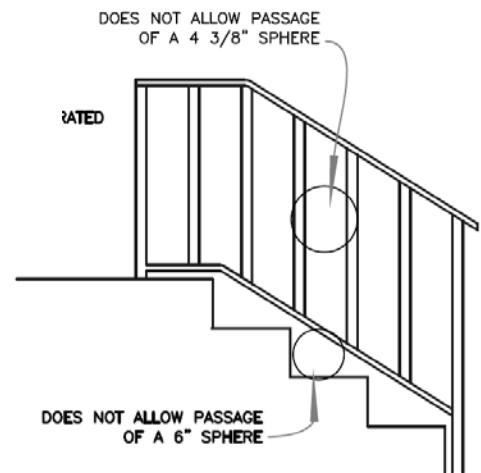

Figure 6. Guard opening limitations on stairs
- Triangular openings on a stair, between the tread, riser and bottom rail of a guard, shall not allow a 6" diameter sphere to pass through (See Figure 6)
- Other openings on guards located on stairs shall not allow a 4 3/8" sphere to pass through (See Figure 6)